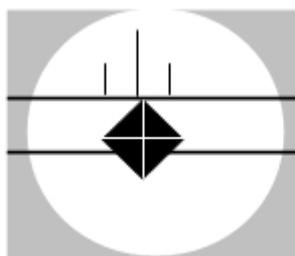

Figure 5-11 Move Top Filar Line to Top Tip
8. Rotate the eyepiece unit 90°. Look into the eyepiece. Now the filar line should be perpendicular to the diagonal which is to be measured. Refer to Figure 5-11.
9. Turn the filar line positioning knob to move the top line to the top tip of indentation. This operation moves both lines simultaneously. Refer to Figure 5-11.